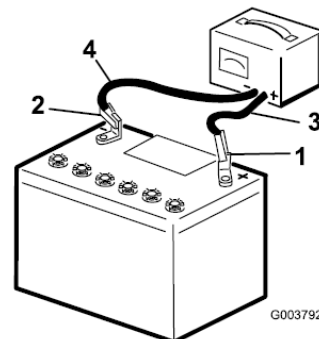

Figure 26
9. Charge the battery for 10 to 15 minutes at 25 to 30 amps or 30 minutes at 4 to 6 amps (Figure 26). Do not overcharge the battery.
10. When the battery is fully charged, unplug the charger from the electrical outlet, then disconnect the charger leads from the battery posts (Figure 26).